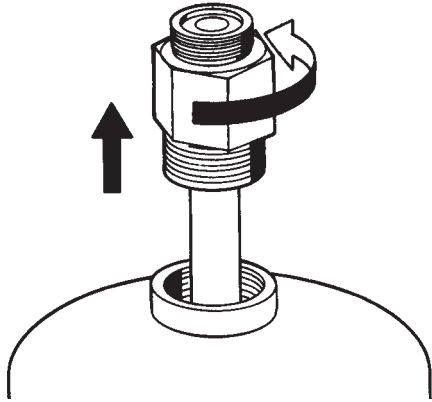

FIGURE 5
- a. Remove tank adaptor/tube assembly from tank fill opening. Visually inspect tank adaptor to determine bursting disc is in place and that silver side is away from tank. See Figure 5.